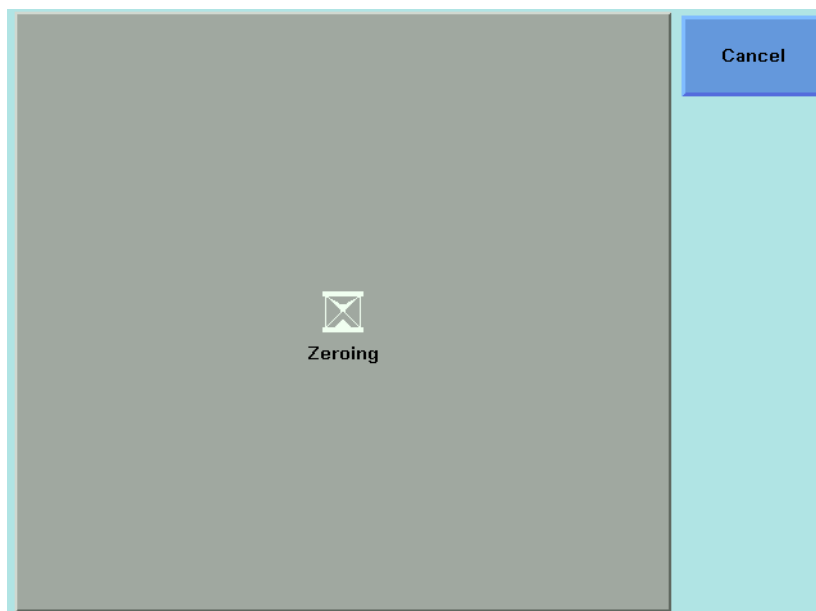

Figure 45 Zeroing Screen
- 3 Move to the <Zero> option to zero the current power measurement channel or the <Zero All> option to zero all power measurement channels. You will see the screen shown in Figure 45, this appears for around 30 seconds while zeroing is performed.